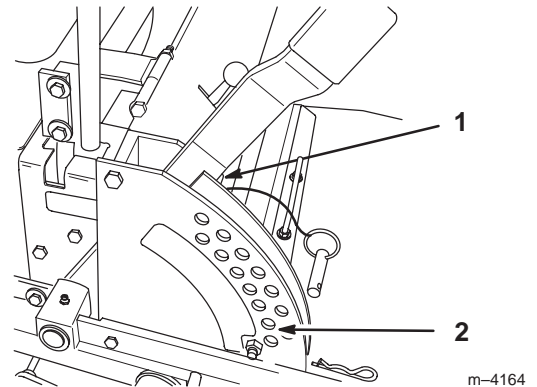

Figure 65
4. Raise the deck to the transport position and take all force off of the two large deck lift springs by loosening nut in front of each spring (Fig. 65).
5. Place two 1-1/2 inch (38 mm) thick blocks under rear left and right lower edge of mower. Place one 2-1/4 inch (57 mm) block under front center lower edge of mower. Lower mower to the 2 inch (51 mm) height-of-cut position (Fig. 65).
1. Raise deck lift lever to the transport position, (Fig. 65).